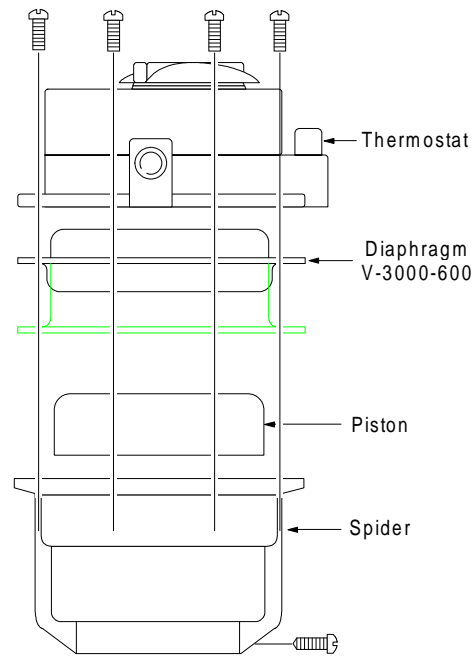

Figure 19: Diaphragm Installation for T-3111 and T-3311 Series
3. Turn the new diaphragm inside out and place it over the piston. Smooth out all of the wrinkles and release any air trapped between the head of the piston and the diaphragm, then pull the flange up. The diaphragm will assume its shape, as illustrated in Figure 19.